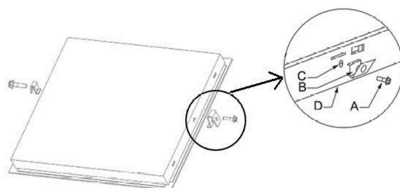

Figure 9.2
4. Put bracket B into the mountings; tighten screw A. (Refer to Figure 9.2)